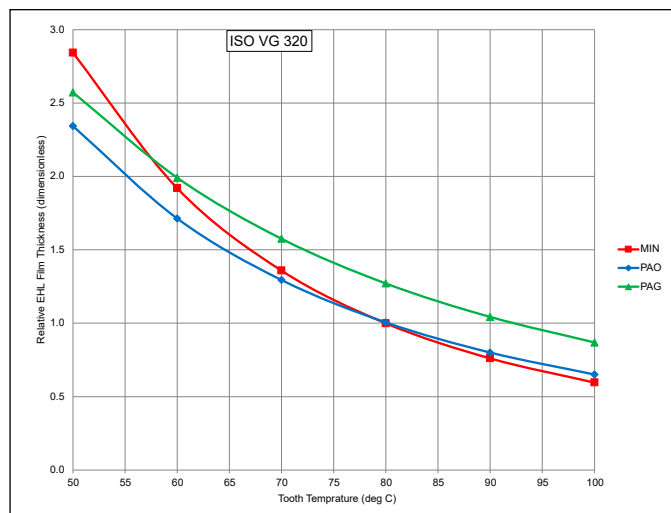

Figure 3—Relative EHL film thickness for ISO VG 320 lubricants.
7. Figure 3 compares performance of the three ISO VG 320 lubricants: